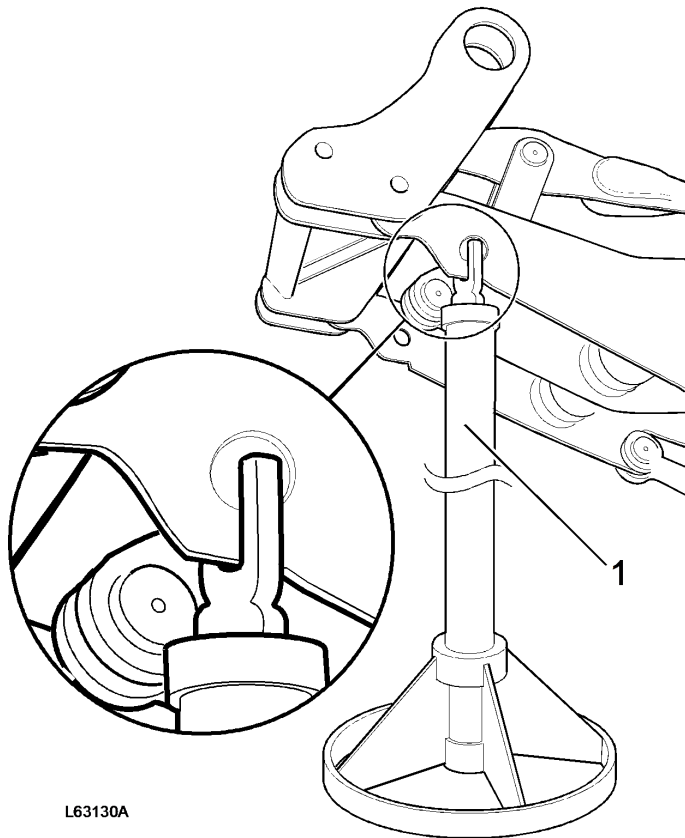

Figure 2
5. Raise the lifting frame and position support, see Figure 2. Lower the lifting frame onto the support and tilt the bucket fully forward.